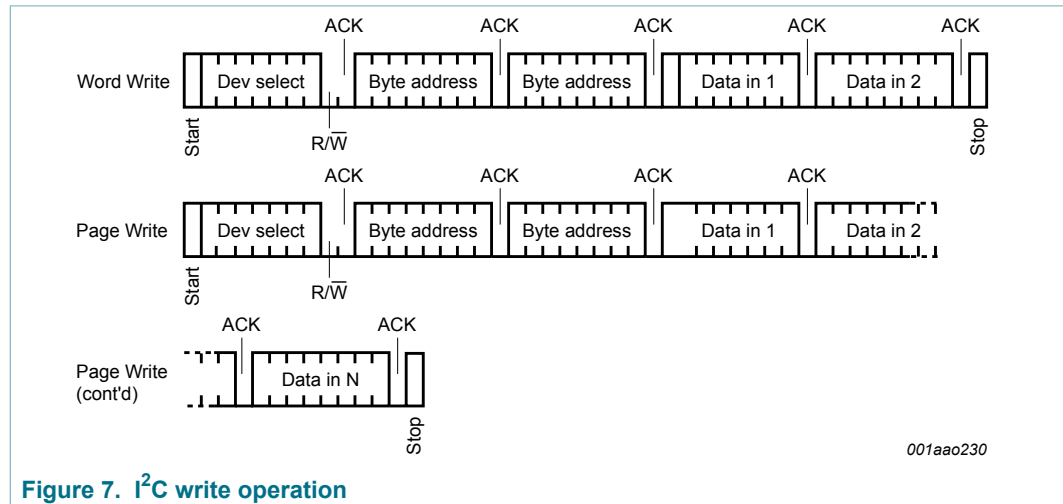

Figure 7. I²C write operation
The UCODE I²C supports the I²C protocol. This is summarized in Figure 7. Any device that sends data on to the bus is defined to be a transmitter, and any device that reads the data to be a receiver. The device that controls the data transfer is known as the bus master, and the other as the slave device. A data transfer can only be initiated by the bus master, which will also provide the serial clock for synchronization. The device is always a slave in all communications.
Following a Start condition the bus master sends a device select code with the Read/Write bit (RW) reset to 0. The UCODE I²C acknowledges this, as shown in Figure 7 and waits for two address bytes. The UCODE I²C responds to each address byte with an acknowledge bit, and then waits for the data Byte.
After the device select code and the address word, the bus master sends one word data. If the addressed location is Write-protected, the UCODE I²C replies with NACK, and the location is not modified. If, instead, the addressed location is not Write-protected, the UCODE I²C replies with ACK. The bus master terminates the transfer by generating a Stop condition, as shown in Figure 7.